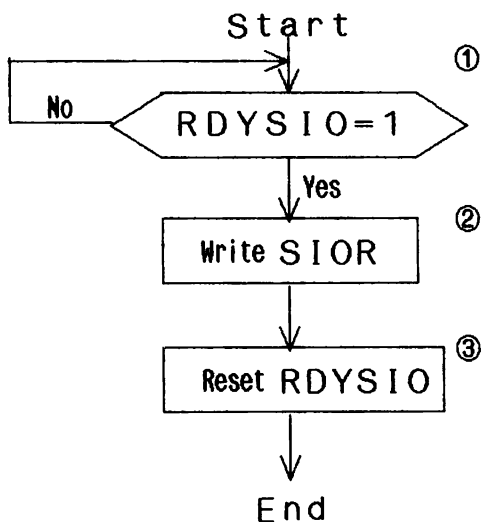

Figure 3.2.1 Procedure for Sending a Command or Data
The flowchart in Figure 3.2.1 illustrates the procedure for sending commands or data to the 7508.
- BIOS MASKI function.The 7508 must be disabled for interrupts while the procedures shown in figures 3.2.1 and 3.2.2. are being executed.
- (2) Complete the send or receive sequence for a command before proceeding with the next command. Normal processing cannot be guaranteed unless the application program sends or receives the required number of data bytes.